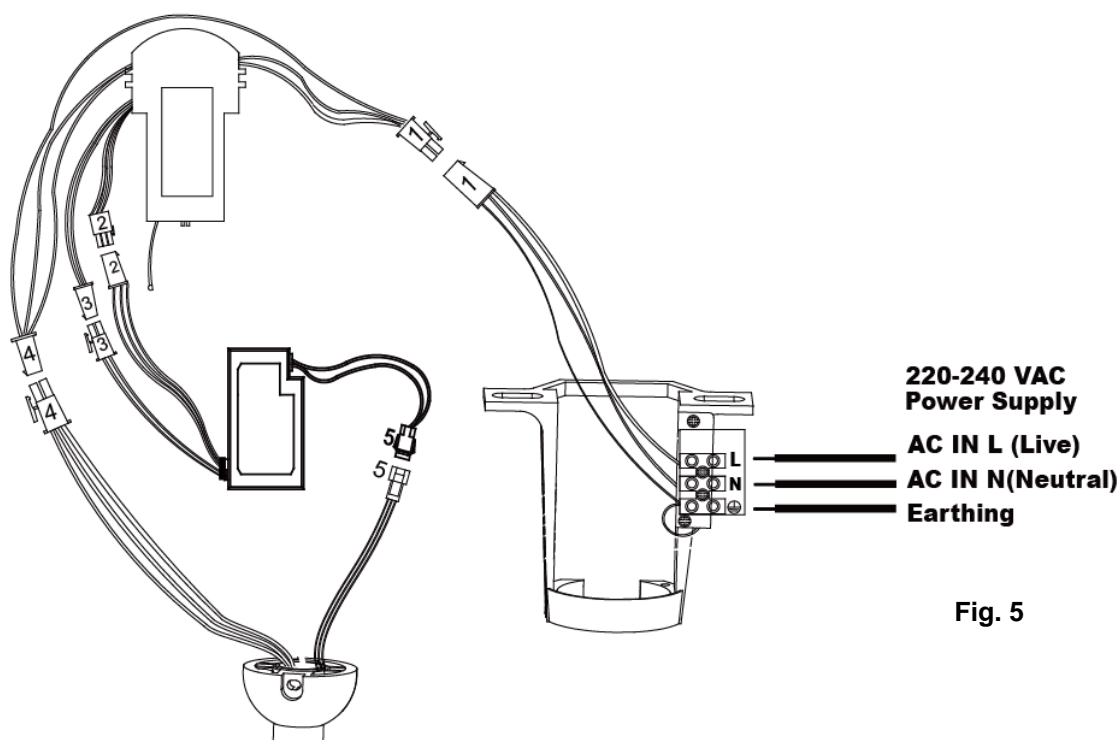

Fig. 5
3. Refer to the wiring diagram provided for Electrical Connection/installation. Fig. 5
- After completing the electrical wiring at the mounting bracket terminal and connecting the remote receiver power input wires and fixed wiring via the 4-port quick connectors (1); connect the LED driver power input wires and remote receiver power output wires via the 2-port quick connectors (3); connect the LED driver PWM signal input wires and remote receiver PWM signal output wires via the 3-port quick connectors (2); connect the remote receiver fan output and motor input wires via the 4-port quick connectors (4); also connect the LED driver output wires and LED light wires via the quick connectors (5). Fig. 5